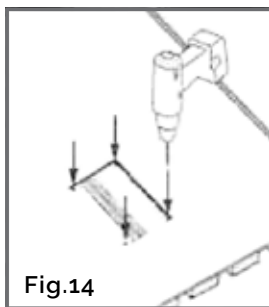

Fig.14
- Drill pilot holes in the corners of the marked socket area. ( fig: 14 ) This will make it easier to insert the jigsaw blade.